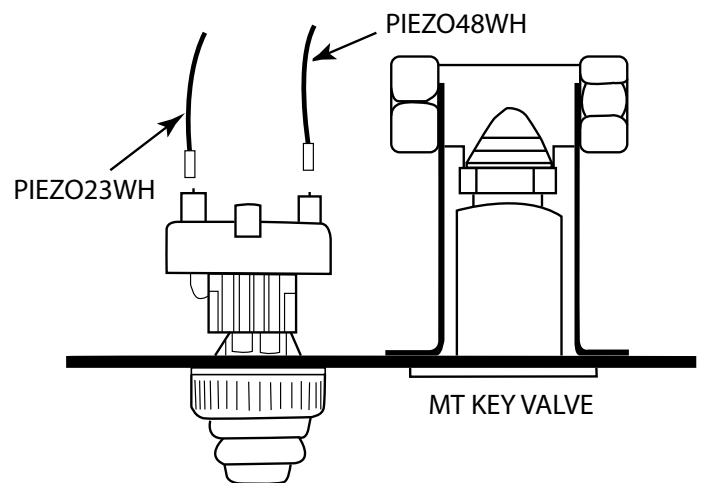

Fig. 15 Wiring into the Piezo module.
Step 7: Connect the 3/16" end of the PIEZO23WH extension wire and 3/16" end of the PIEZO48WH wire into the back side of the spark ignitor module. See Fig. 15 detail.